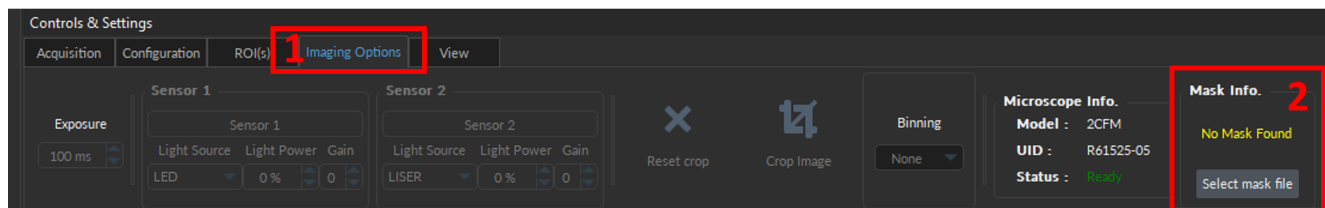

Figure 7.26: Add Mask in the Imaging Options tab
- *Light Source* drop-down list - ONLY AVAILABLE for 2-color fluorescence microscope and the eFocus fluorescence microscope (Fig. 7.26, Sensor 1 & 2). This allows users to set the excitation source, which can be either **LED** or **LISER**.
2. Open the software and connect the *Microscope Driver*. Then navigate to the **Imaging Options** tab and click **Select Mask File** (Fig. 7.26). This opens a file selection window. Travel to the location of the mask file, select it and click **OK**.